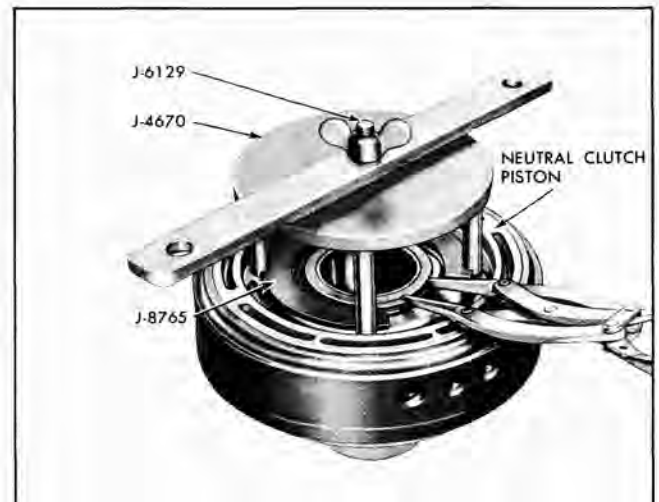

Fig. 85 Removing Neutral Clutch Spring Retainer Snap Ring
8. Using tools J-8765, J-6129, and J-4670-B remove neutral clutch release spring retainer snap ring. Center tool and position ring gap between legs (Fig. 85).
7. Using tools J-8761, J-6129 and J-4670-B, compress neutral clutch release springs and install retainer snap ring (Fig. 85).